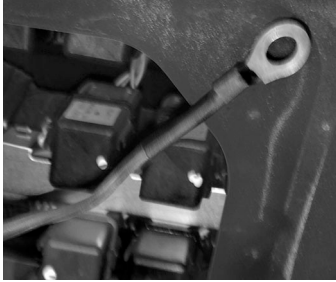

FIG. 81
- Pull the cable through the back of the relay panel, into the fuse panel and out through the panel cover (FIG. 81).
- Follow the same wiring splicing procedure as before (see Steps 1-5, page 38). Attach a ring terminal to the controller ground wire (FIG. 81).